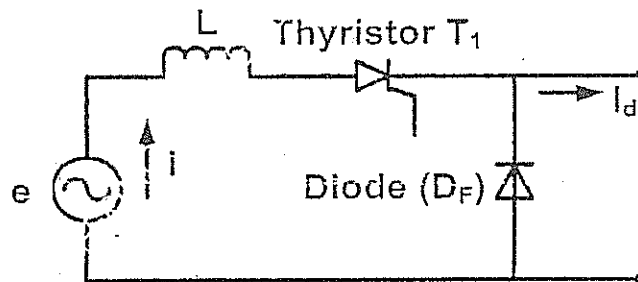

Fig.Q2 (b)
- (b) A single phase full-wave mid-point converter with freewheeling diode as shown 10 below in Fig. Q2(b) is supplied from a 120V, 50 Hz supply with a source inductance of 0.33 mHenry. Assuming that the load current is continuous at 4A, find the overlap angle for